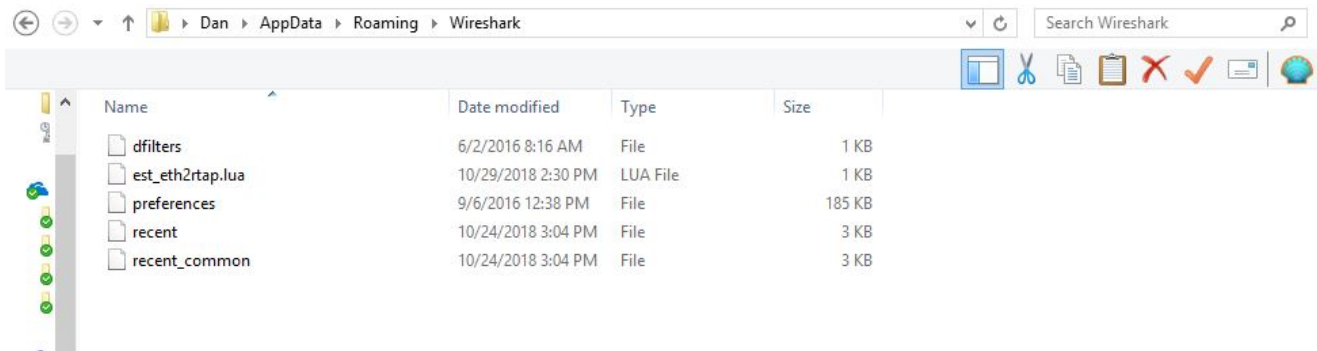

Figure 5: Wireshark directory
7. Copy the downloaded `est_eth2rtap.lua` script into `C:\Users\username\AppData\Roaming\Wireshark` directory (Figure 5)